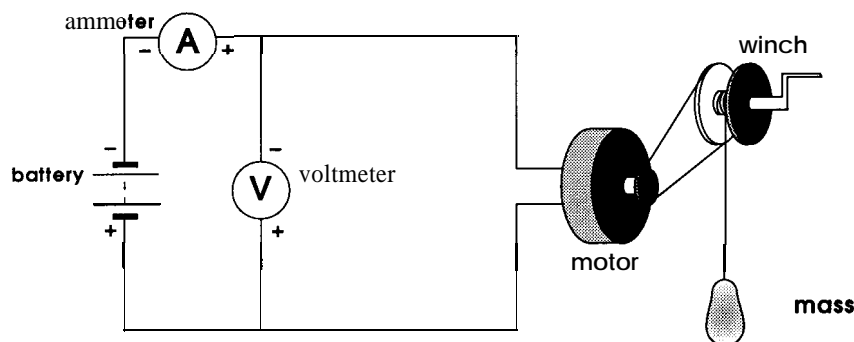

figure 3
1. Connect the circuit as shown in figure 3 being careful to match the positive terminals of the meters with the positive terminal of the battery (or power pack).